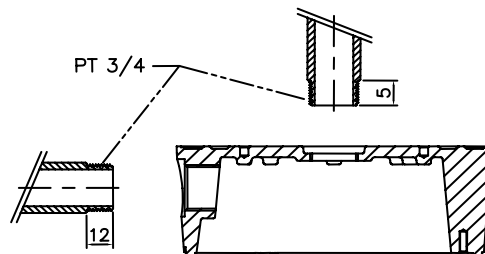

FIG.5
2. When you use pipe, please note the standard size of pipe. (FIG.5)